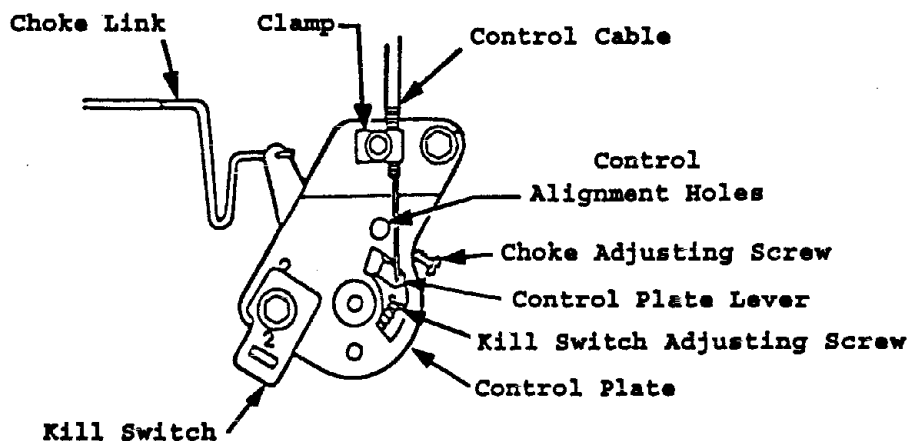

FIG 2
- b) Loosen clamp on engine control plate (See Figures 2 & 3). Attach inner wire of the throttle cable to the control plate lever and position cable clamp, *do not* tighten clamp.